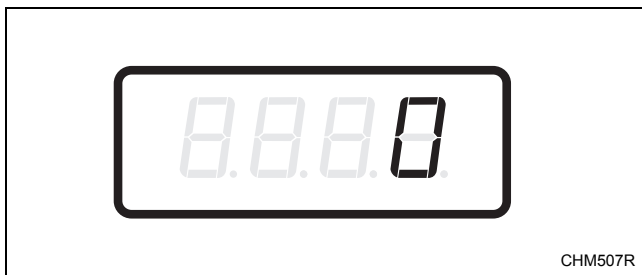

Figure 13
4. When “AtS2” appears in the display, press the START (enter) keypad. There are five digits in the Normal Warm Vend Price. The fifth digit will appear in the display and will flash one (1) second on, one (1) second off. Refer to *Figure 13*.